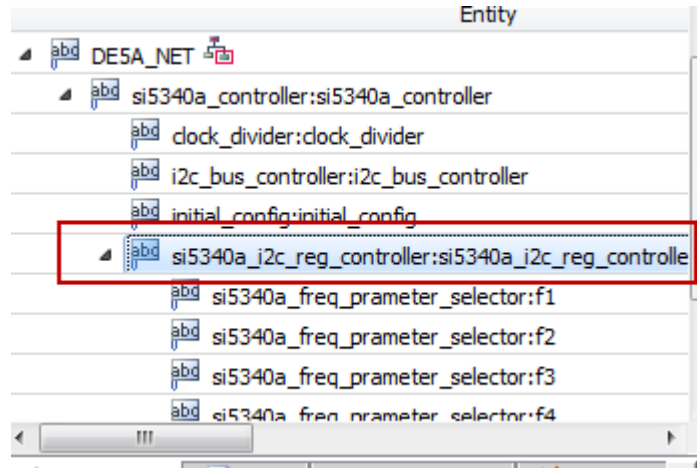
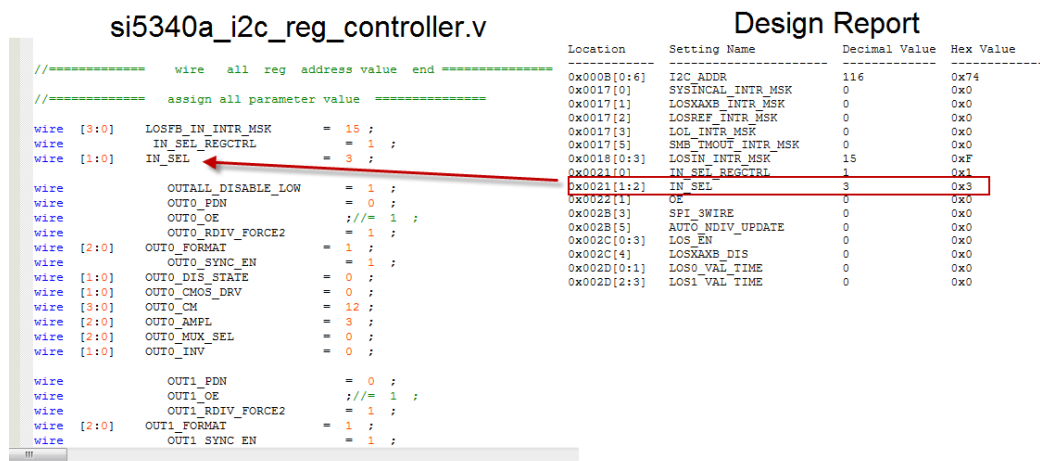

Figure 5-9 Sub-Module file "si5340a_i2c_reg_controller.v"
Figure 5-10 Modify Si5340 Control IP Base on Design Report
- Open Si5340 control IP sub-module "si5340a_i2c_reg_controller.v" as shown in **Figure 5-9**, refer Design Report parameter to modify sub-module corresponding register value (See **Figure 5-10**).